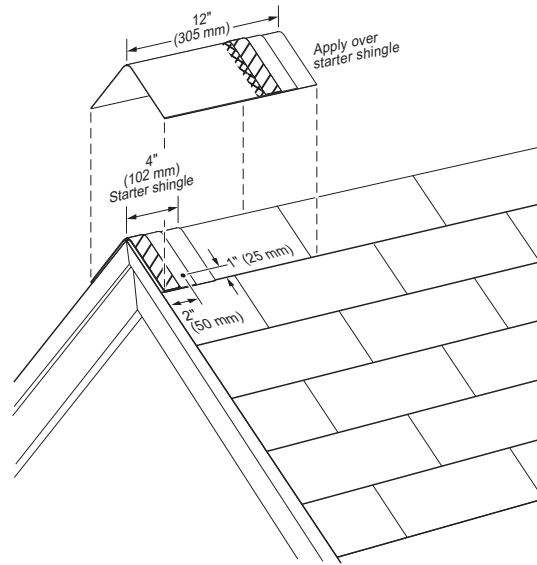
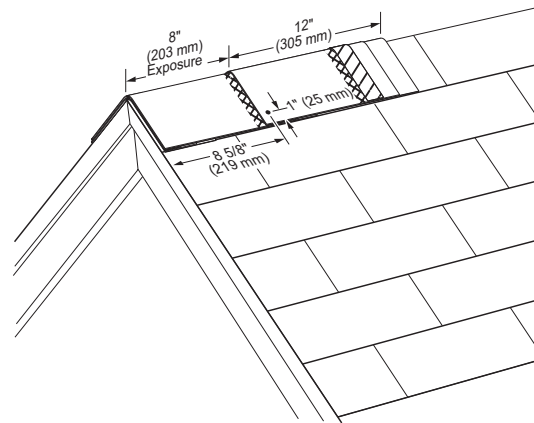

Figure 12-19: Apply a full cap shingle over the starter shingle.
Figure 12-20: Install cap shingles at an 8" exposure and fasten with one nail on each side as shown.
**NOTE:** Each cap has a laying/alignment notch at the top edge to center the piece on the ridge line, and two notches on each side to indicate the correct exposure and shadow-line placement (Figure 12-19). The side notches of the cap being applied should be aligned with the top edge of the previously applied cap.
For the starter shingle, place fastener 1" in from each side edge and about 2" up from the starter shingle's exposed butt edge, making sure fastener goes 3/4" into the deck or all the way through the deck. (see Figure 12-19). For each full Cedar Crest shingle, place fasteners 8-5/8" up from its exposed butt edge and 1" in from each side edge (see Figure 12-20).
Apply primary roofing up to hip or ridge on both sides of roof and trim flush. Ensure that the Cedar Crest shingles will adequately cover the top course of the shingles on both sides of the hip or ridge. Prepare a 4" “starter” shingle by cutting off the lower 8" color granule portion of one Cedar Crest shingle. Apply the 4" starter piece with raised overlay edge over the bottom corner of the hip or to either end of the ridge, overhanging the corner or end by approximately 1/2" and bending the starter shingle along its centerline to form into place (see Figure 12-19). Install a nail on each side about 2" up from the starter shingle’s exposed butt edge and 1" in from each side edge of the shingle.
Then apply a full 12" x 12" piece over the starter, bending the shingle along its centerline and forming it into place over the hip or ridge, flush with the bottom and side edges of the starter shingle. Fasten with two nails minimum 1-3/4" long with one nail on each side of shingle 8 5/8" up from the butt edge and 1" in from each side edge (see Figure 12-20).